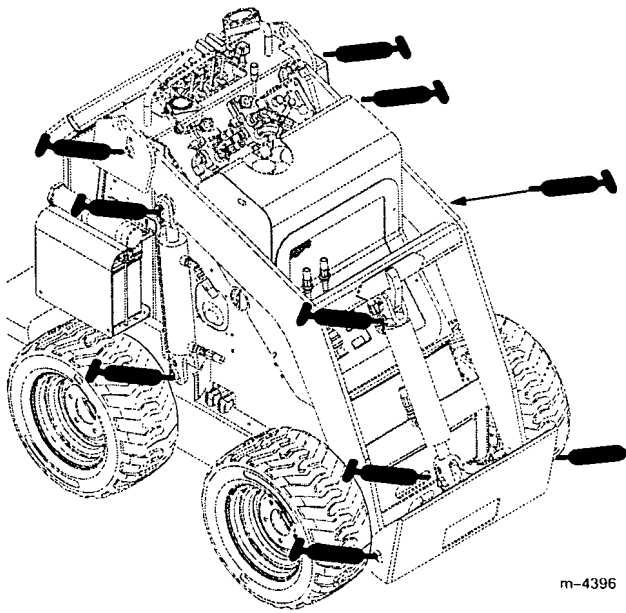

Figure 25
3. Connect a grease gun to each fitting (Fig 25 and 26).